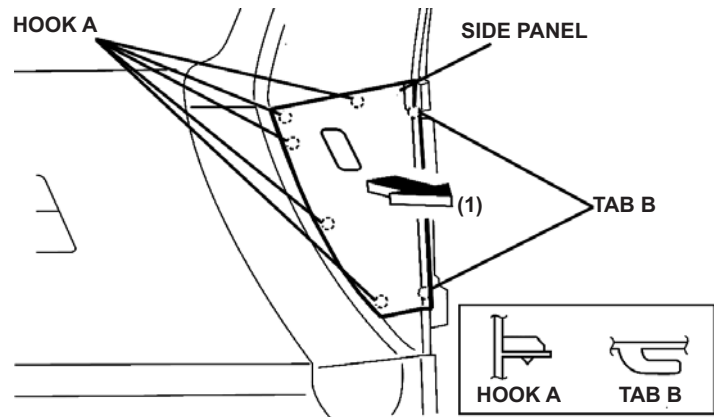

FIGURE 19
- 1.) PULL THE SIDE PANEL IN THE DIRECTION OF THE ARROW (1) AND THEN REMOVE THE HOOKS A. (SEE FIGURE 19)
- 1.) REMOVE THE FASTENER. (SEE FIGURE 19)